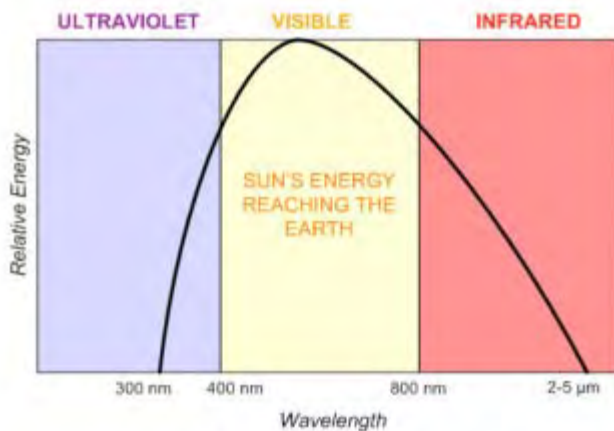

Figure 1: Emission Energy Spectrum
There are four primary optical flame-sensing technologies in use today: ultraviolet (UV), ultraviolet/infrared (UV/IR), multi-spectrum infrared (MSIR), and visual flame imaging. They are all based on line-of-sight detection of radiation emitted in the UV, visible, and IR spectral bands by flames (see Figure 1). Technologies may be selected to suit the requirements of flame monitoring applications, including detection range, field of view (FOV), response time, and particular immunity against certain false alarm sources.